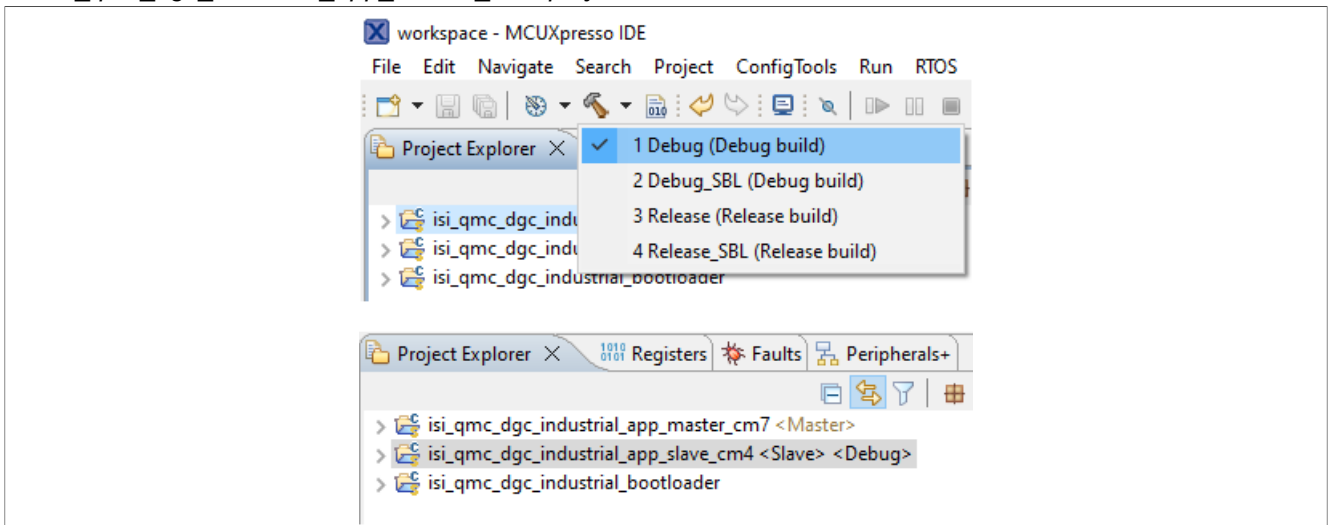

Figure 43. Build `isi_qmc_dgc_industrial_app_master_cm7` project
2. Build the `isi_qmc_dgc_industrial_app_master_cm7` project, as shown in Figure 43: